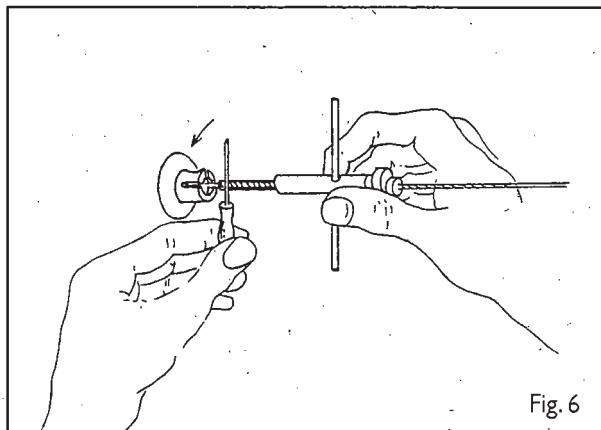

Fig. 6
3. Insert the steel pin in the hole in the tension lock and the screwdriver in the hole in the tightening screw. Arrest the tension lock with the steel pin and turn the tightening screw only in an anti-clockwise direction to taunt the cable (Fig. 6).